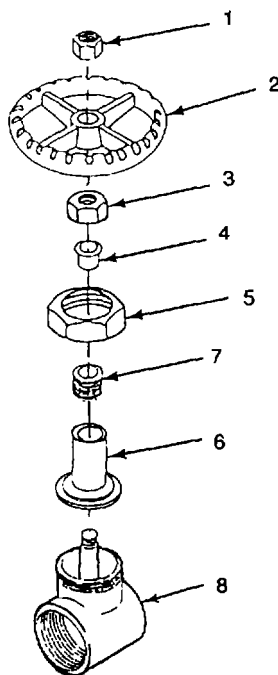

Figure 4-4. 2-Inch Gate Valve
- a. **DISASSEMBLE (Figure 4-4).**